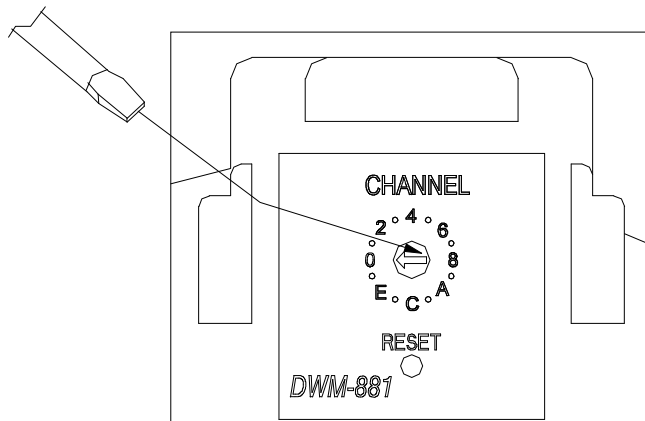

Figure 5.7
5.7.3 As shown in figure 5.7, fitting a slotted screwdriver into the slot, and rotate the switch clockwise or counter-clockwise to a desired channel. Each turn clicks into place represents a channel is been selected